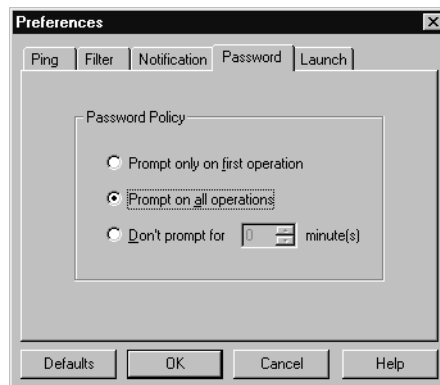

Figure 9-2. Password Dialog Box
- 1 Click  to open the Preferences dialog box and click the **Password** tab to display the Password dialog box as shown in Figure 9-2.